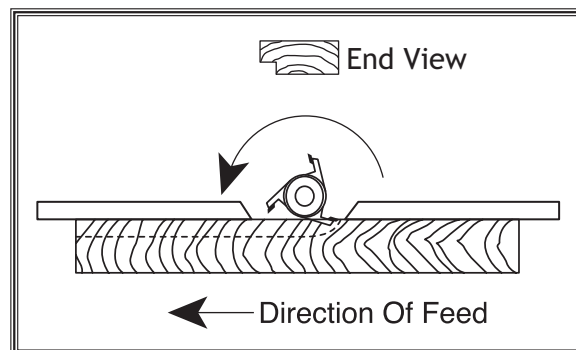

Figure 40. Fence setup for partial-edge removal (Guard Removed for Clarity).
3. Align the outfeed fence with the infeed fence as shown in **Figure 40**.